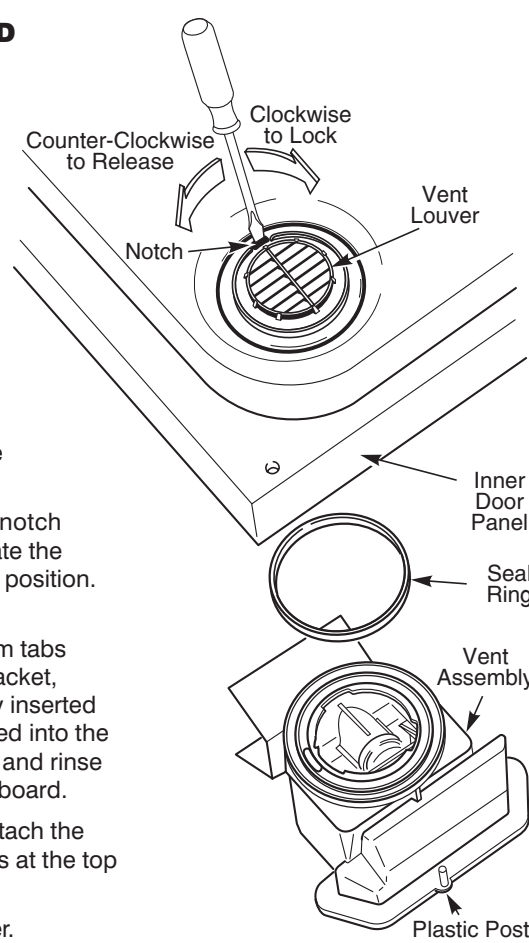

Figure 3
- Open dishwasher door. Remove four (4) screws at the top of stainless steel inner door panel to loosen console. Hold console to prevent strain on wiring.
- Insert the end of a screwdriver into the notch in the vent louver. Push counter-clockwise to rotate louver approximately 1/8 turn to release it. See Figure 3.
- Insert the end of a screwdriver into the notch in the vent louver. Push clockwise to rotate the louver approximately 1/8 turn to lock it in position. See Figure 3.
- Press top of console against door and attach the console by reinstalling the four (4) screws at the top of the stainless steel inner door panel.